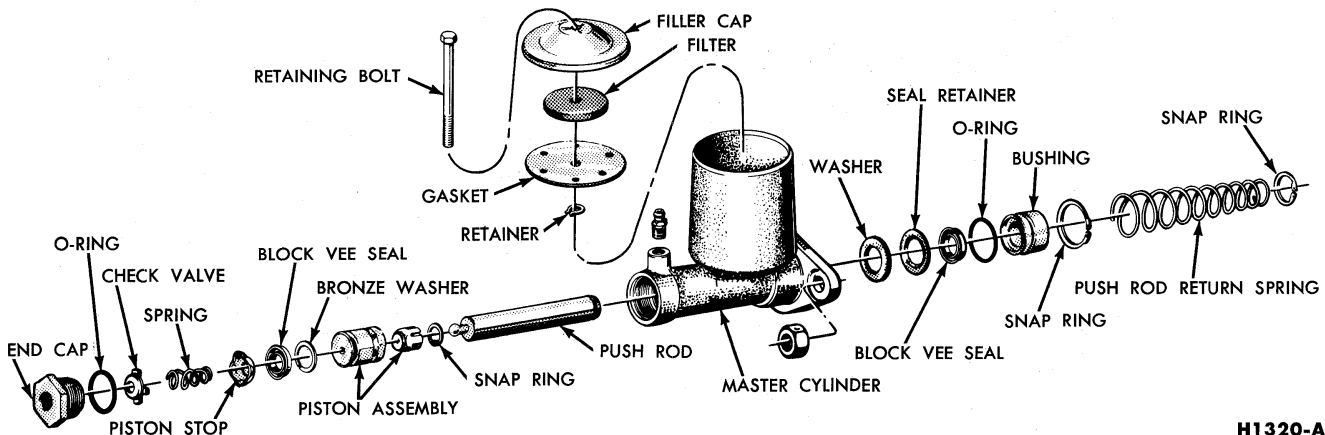

FIG. 27—Dash-Mounted Master Cylinder Disassembled
1. Clean the outside of the master cylinder, loosen the retaining bolt, and remove the filler cap, filter and gasket assembly (Fig. 27). Pour out any brake fluid remaining in the
6. Remove the "Block Vee" type seal and bronze washer from the piston (Fig. 27).
1. Install the bronze washer and the "Block Vee" type seal on the piston assembly (Fig. 27).
4. Install the O-ring on the end cap. Install the piston stop, spring, check valve, and the end cap in the front end of the cylinder (Fig. 27).
7. Slide the return spring onto the master cylinder push rod, compress the spring, and install the retaining snap ring (Fig. 27).